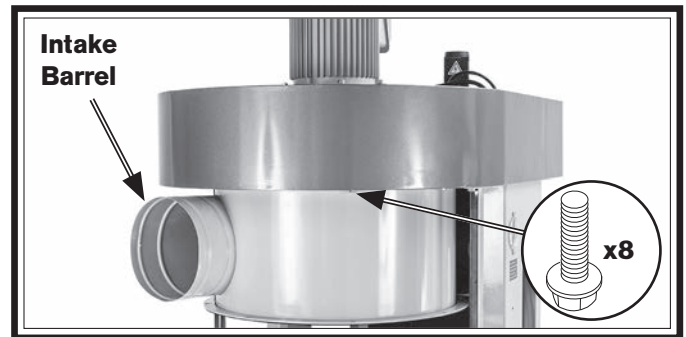

Figure 13. Intake barrel attached to housing assembly.
- With help of an assistant, align intake barrel so dust port points straight out from housing assembly, then attach barrel with (8) $\frac{5}{16}$ "-18 x $\frac{1}{2}$ " flange bolts (see **Figure 13**).